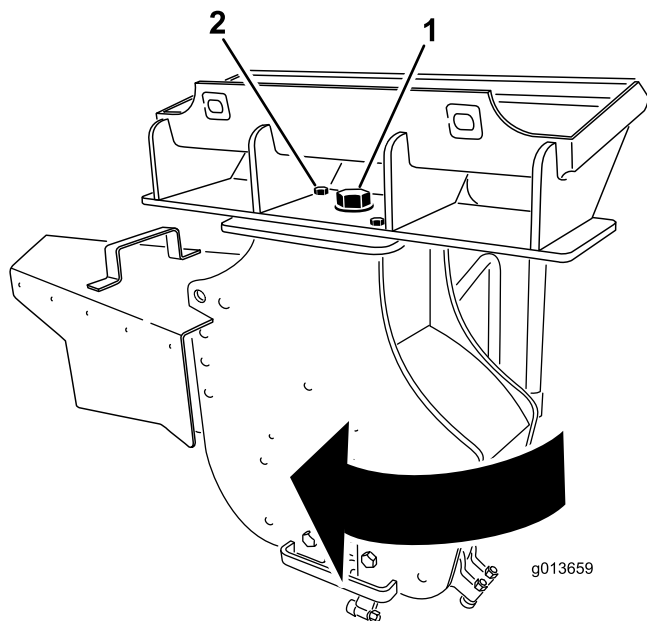

Figure 10
3. Loosen the large bolt on the top of the grinder (Figure 10).
4. Remove the front bolt and nut securing the grinder (Figure 10).
5. Swing the grinder 30 degrees clockwise (Figure 10).
6. Torque the large bolt on top of the grinder to 406 N-m (300 ft-lb) (Figure 10).
7. Install the bolt and nut in the front hole and torque them to 101 N-m (75 ft-lb) (Figure 10).
12. Loosen the large bolt on the top of the grinder (Figure 10).
13. Remove the front bolt and nut securing the grinder (Figure 10).
14. Swing the grinder 30 degrees counter-clockwise (Figure 10).
15. Torque the large bolt on top of the grinder to 406 N-m (300 ft-lb) (Figure 10).
16. Install the bolt and nut in the front hole and torque them to 101 N-m (75 ft-lb) (Figure 10).